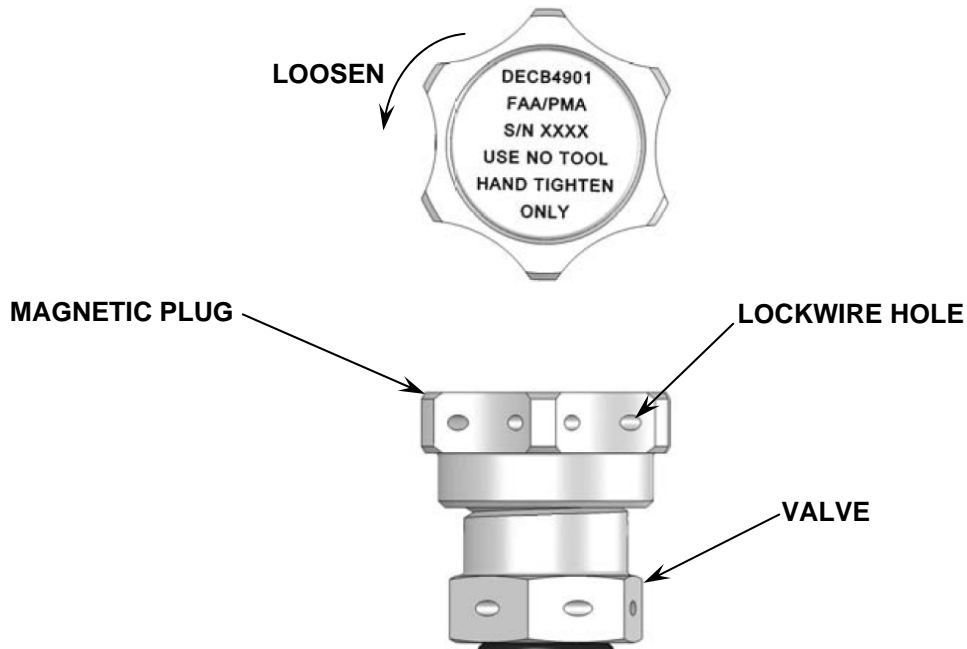

FIGURE 7
3. Removal of Magnetic Plug (Figure 7)